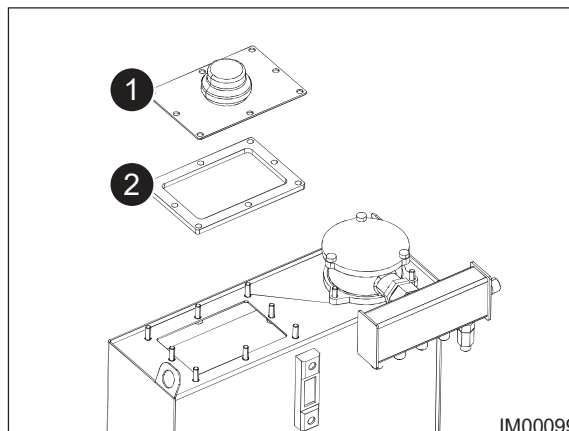

Fig: 11.38 - Inspection Cover
5. Remove the inspection cover along with filler cap (Item 1, Fig: 11.38).
6. Inspect the gasket seal (Item 2, Fig: 11.38) and replace if necessary.
11. Install the gasket (Item 2, Fig: 11.38).
12. Install the inspection cover along with filler cap (Item 1, Fig: 11.38).